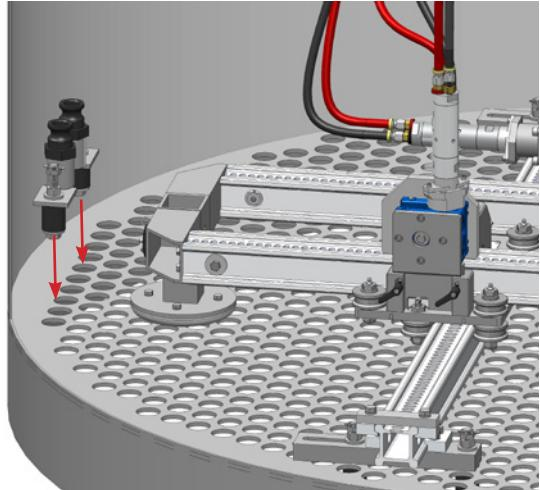

FIGURE 59.2
3. Slide the Adjustable Expansion Plugs until they drop into a tubes. Hold the Castle Nut and tighten the Hex Nut with 3/4" wrench. If the Castle Nut does not stay stationary, the Expansion Plug will not expand. (**Figure 59.2**)